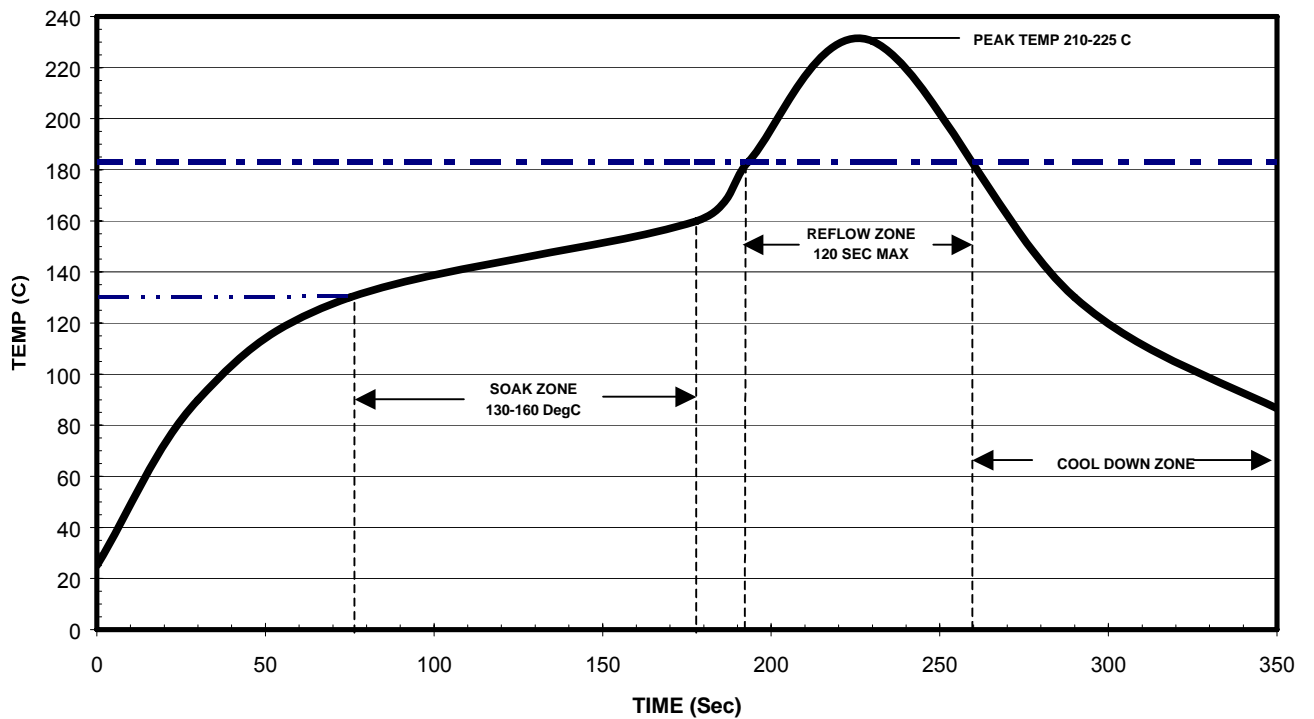

Figure 6: Eutectic SnPb Solder Profile
- See Figure 6 for example profile.